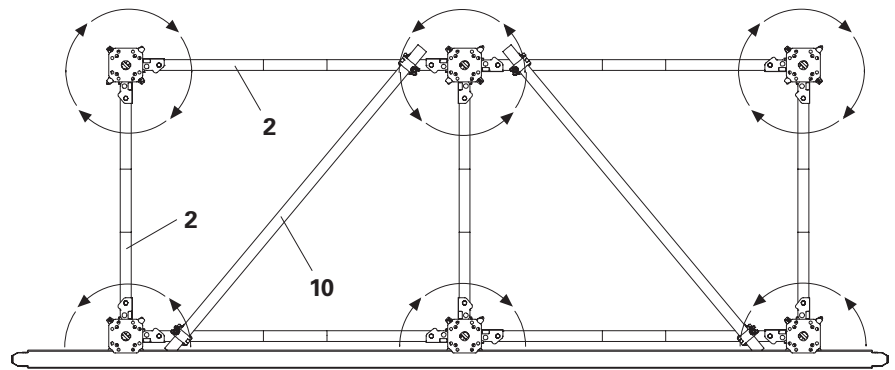

Fig. A3.06
- Using scaffolding tubes 48.3x3.2 mm (**10**) to reinforce the bracing diagonally at half the tower height. (Fig. A3.06)